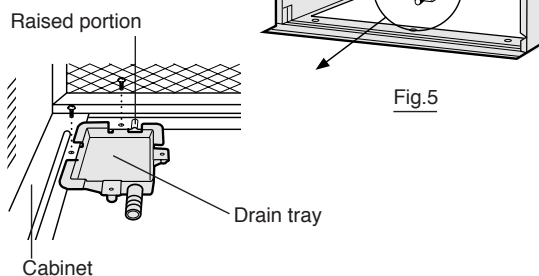

Fig.5
- 3** Attach the provided drain tray to the cabinet in case drainage becomes necessary. Use the 2 short gold screws (1.2cm/0.5") to fix it. (Fig.5)